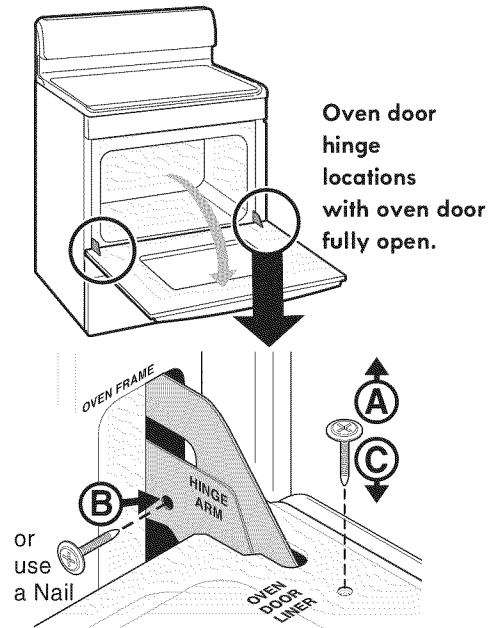

Figure 17: Hinge locations and hinge removal steps
2. Remove 2 screws located on the inside of the oven door liner (Figure 17).
3. Insert the 2 screws into the door hinge holes located on the side of the hinge arm, one into each hinge (Figure 17).
5. Reinstall the 2 screws into the door liner (Figure 17).